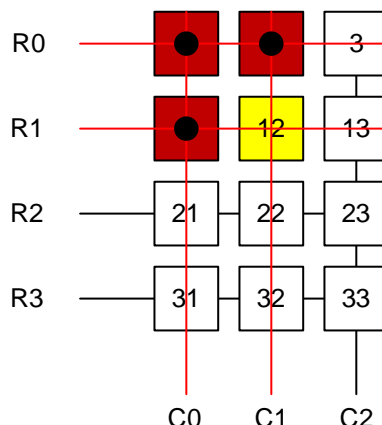

Figure 27. Incorrect 3 Button Combination
In Figure 27, keys 1, 2, and 11 are pressed, which causes a ghosting issue. Since R1 becomes pulled to ground through key 1 (which is pulled through key 2 when C1 is transmitting a low), when C1 is driving low, the TCA8418 will see a low signal at both R0 and R1. This will falsely trigger key 12 as being pressed (the key highlighted as yellow).